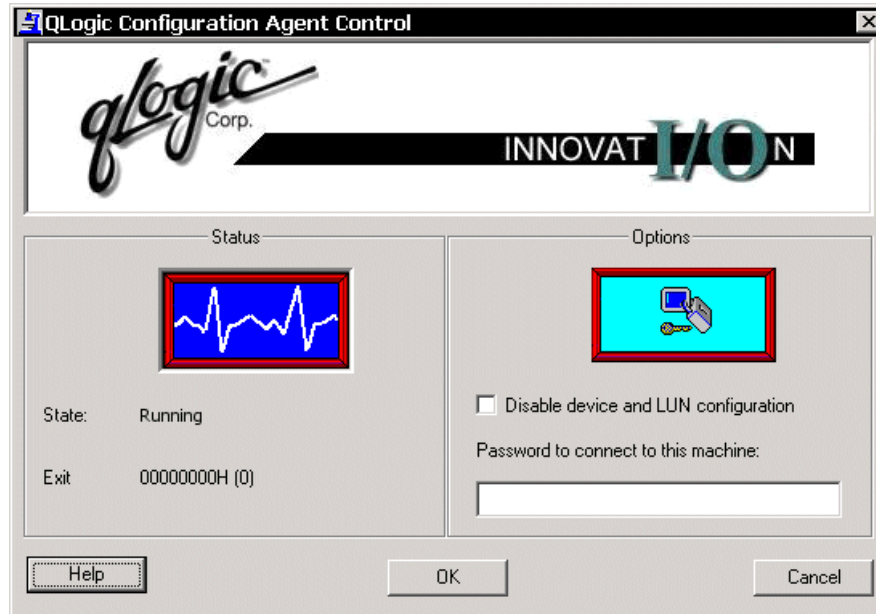

Figure 2-47 QLogic Configuration Agent Control
2. Select **Start -> Programs -> QLogic Management Suite -> QLconfig -> QLconfig Security**. There is only one screen, shown in Figure 2-47.